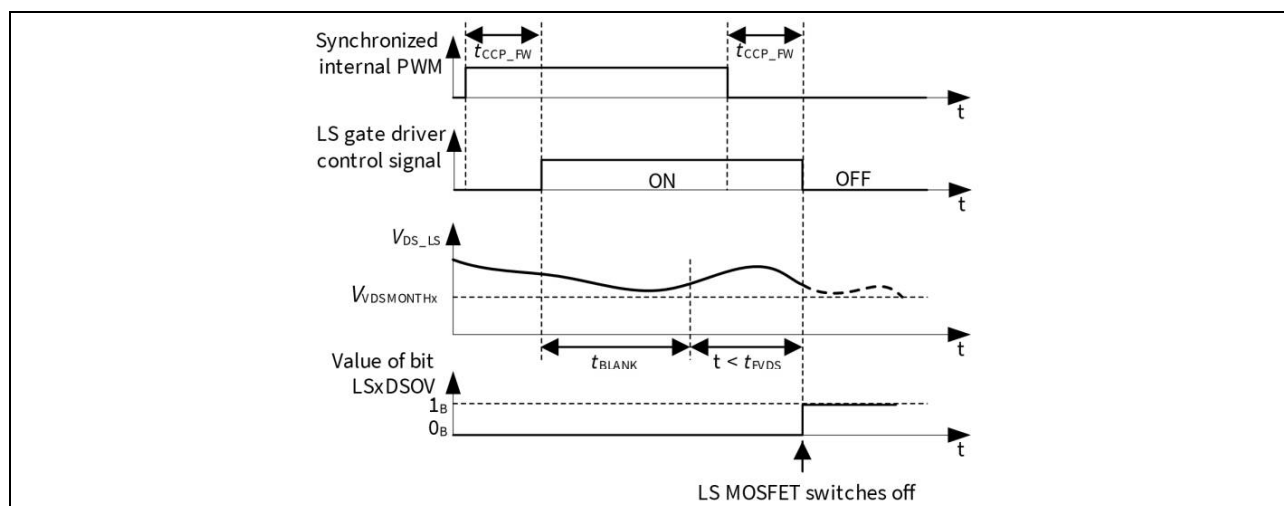

Figure 1 Falling edge of the internal LS control signal before the expiration of t_{FVDS}
- while $V_{\text{DS_LS}} > V_{\text{VDSMONTHX}}$ for $t < t_{\text{FVDS}}$ (**Figure 1**)